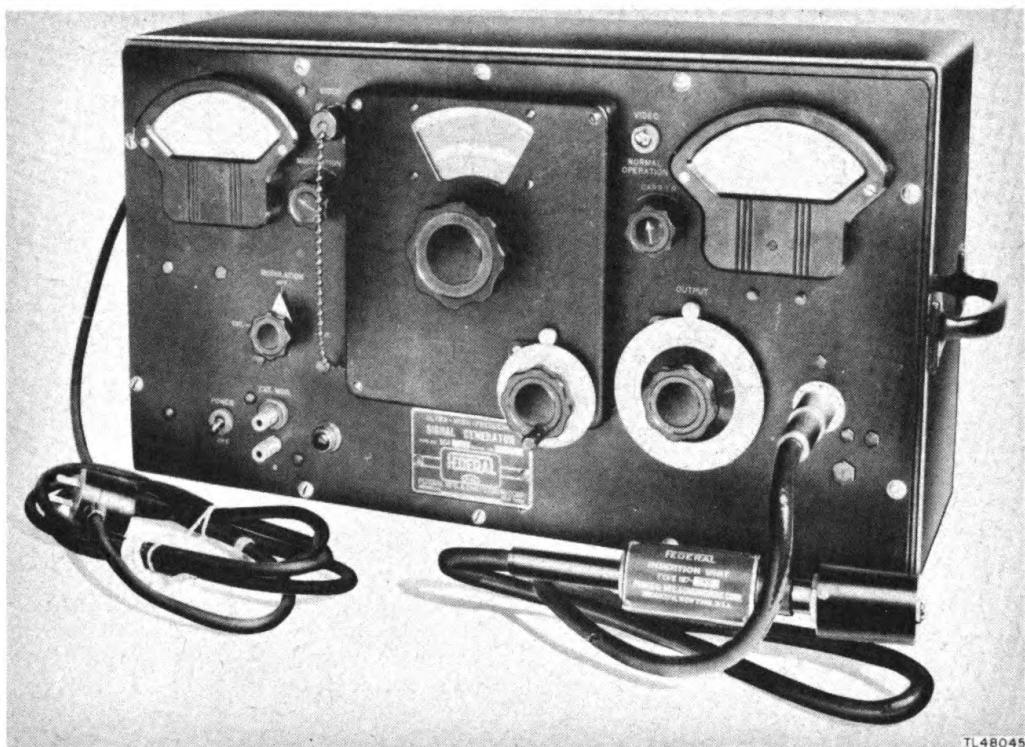

Figure 7. Signal Generator TS-301/U.
9. SIGNAL GENERATOR TS-301/U (fig. 7).